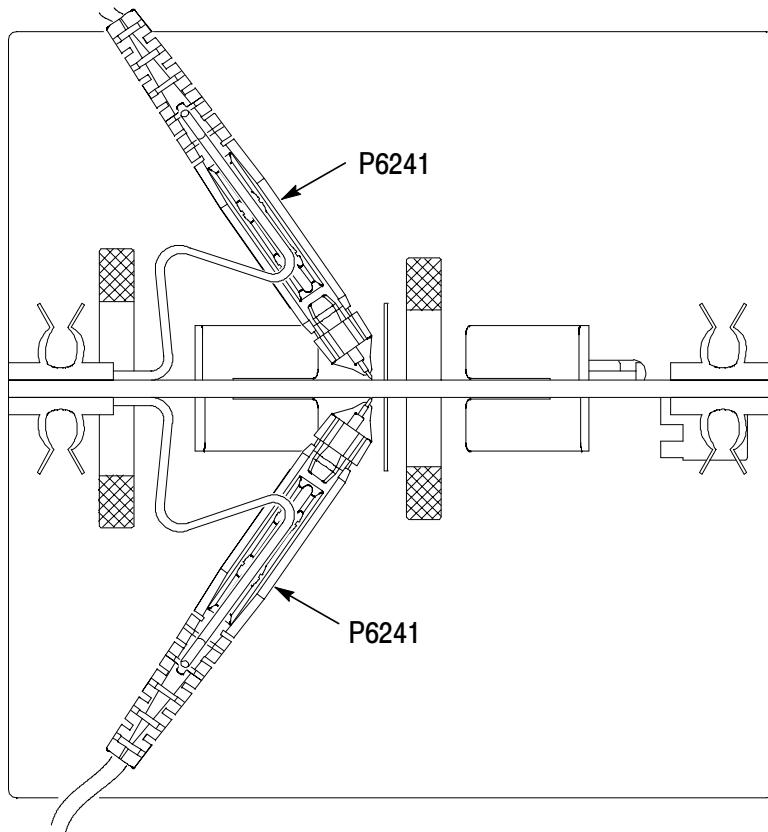
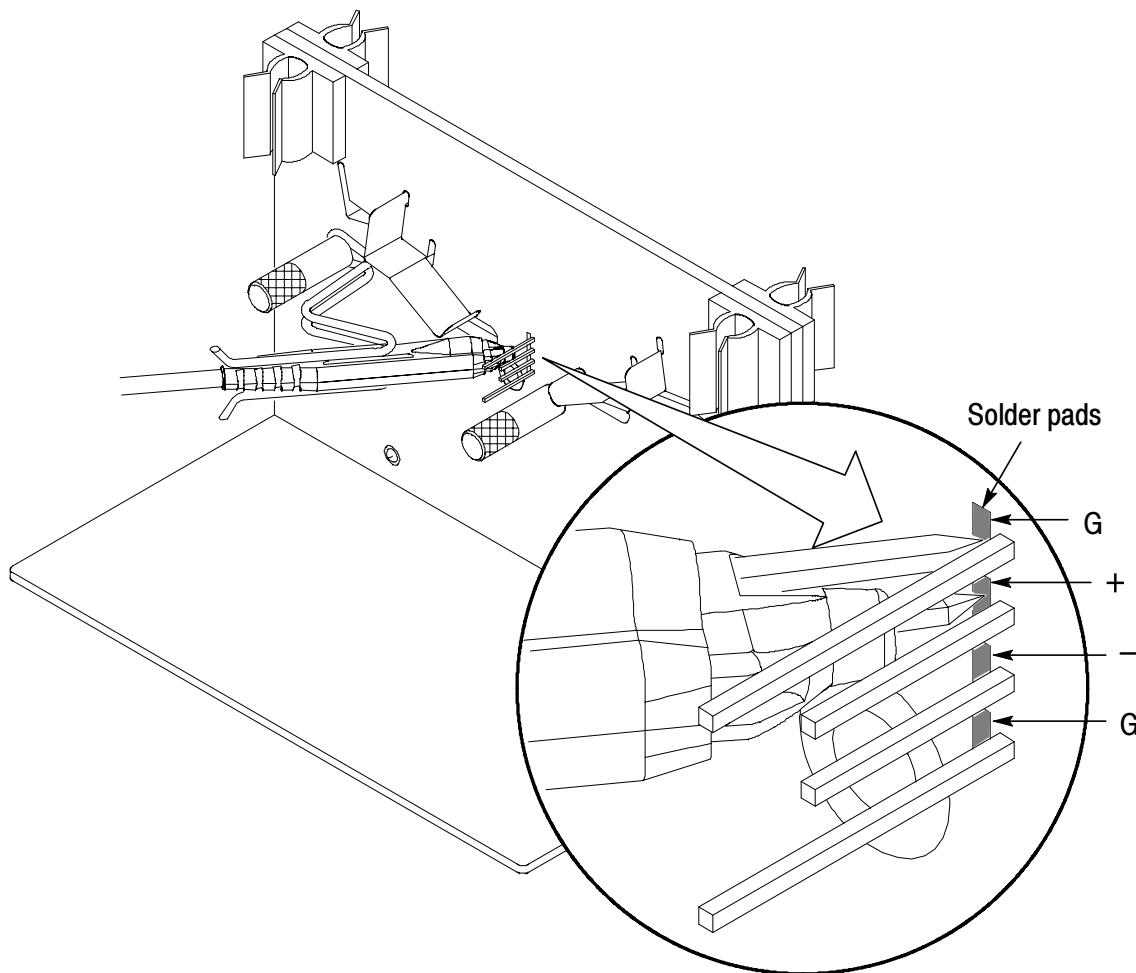

Figure 4: Deskew fixture connections (two P6241 probes shown)
Figure 5: Detail of deskew fixture connections
3. If you have the optional deskew fixture, connect it to the PROBE COMPENSATION connections. Connect the probe to the deskew fixture (see Figure 4 on page 18), and proceed to step 6.
The optional deskew fixture (Tektronix part number 067-0484-00) provides a convenient way to connect the probes in your system to the calibration signal for deskewing. The deskew fixture is configured to allow you to connect different probe models to the system. Refer to Figure 4 to see how two P6241 probes are connected. Figure 5 provides an enlarged view of the deskew fixture connections.